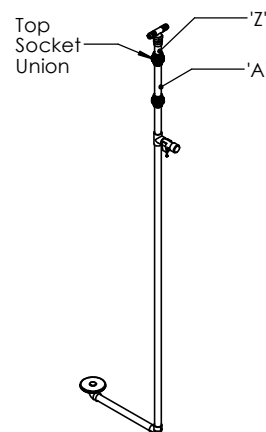

Fig. 1
- Remove the Diffuser pipework from the tank (Fig. 1).